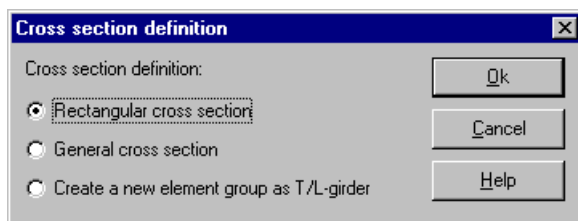

Figure 8-12 "Cross section definition" option box
- The following option box in Figure 8-12 appears